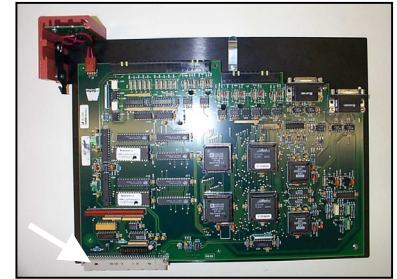

Figure 5. J5 Connector Location
5. **Locate J5 Connector.** Make sure the 70005190 board is facing you so that the logo and the LED bracket are in the upper left corner. Notice the gray J5 connector (Figure 5) on the lower left corner of the board.